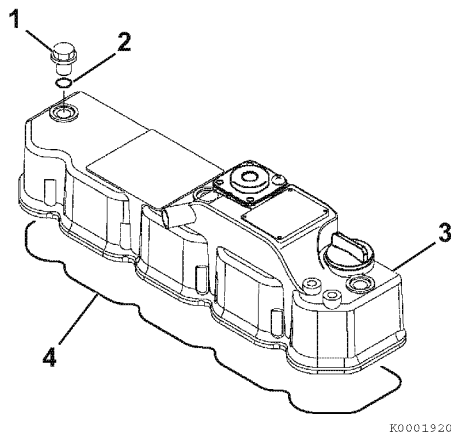

Figure 6-36
1. Lightly grease a new valve cover gasket (Figure 6-36, (4)). Place the gasket in the groove of the valve cover (Figure 6-36, (3)).
3. Be sure new O-rings (Figure 6-36, (2)) are installed on the valve cover nuts. Reinstall and tighten the valve cover nuts (Figure 6-36, (1)).